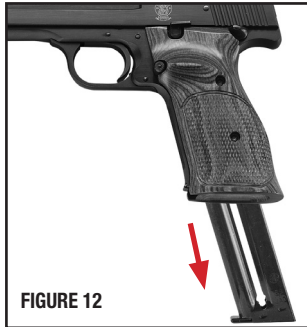

FIGURE 12
- Press magazine release in and remove the magazine (FIGURE 12).